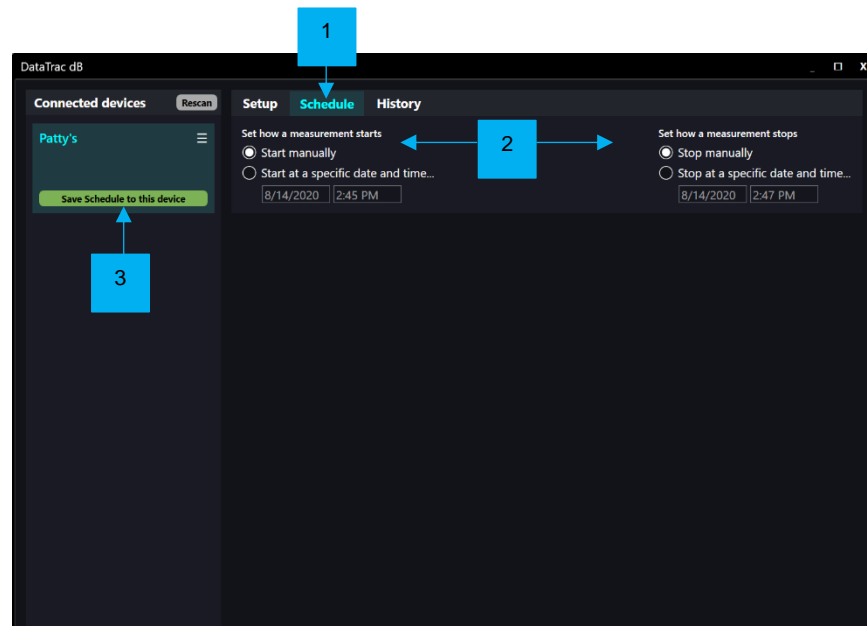

Figure 7. Schedule Screen (Manual Start/Stop Selected)
Scheduling Sample Runs —Schedule Tab (*Figure 7*)
2. Select manual or scheduled start/stop for measurement. Manual start and stop are selected in Figure 7; for scheduled start/stop, select “Start/Stop at a specific date and time...” and enter desired dates and times.